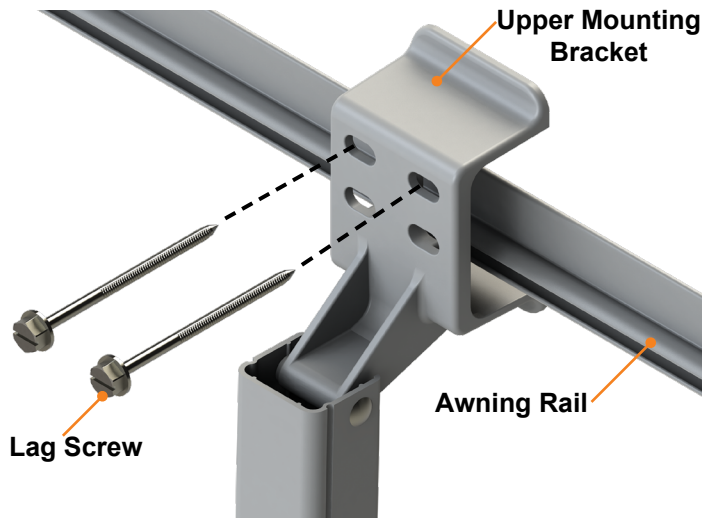

Fig.9
B. Attach the upper mounting bracket using the provided $\frac{1}{4}$ " x 3" lag screws provided (**Fig.9**).